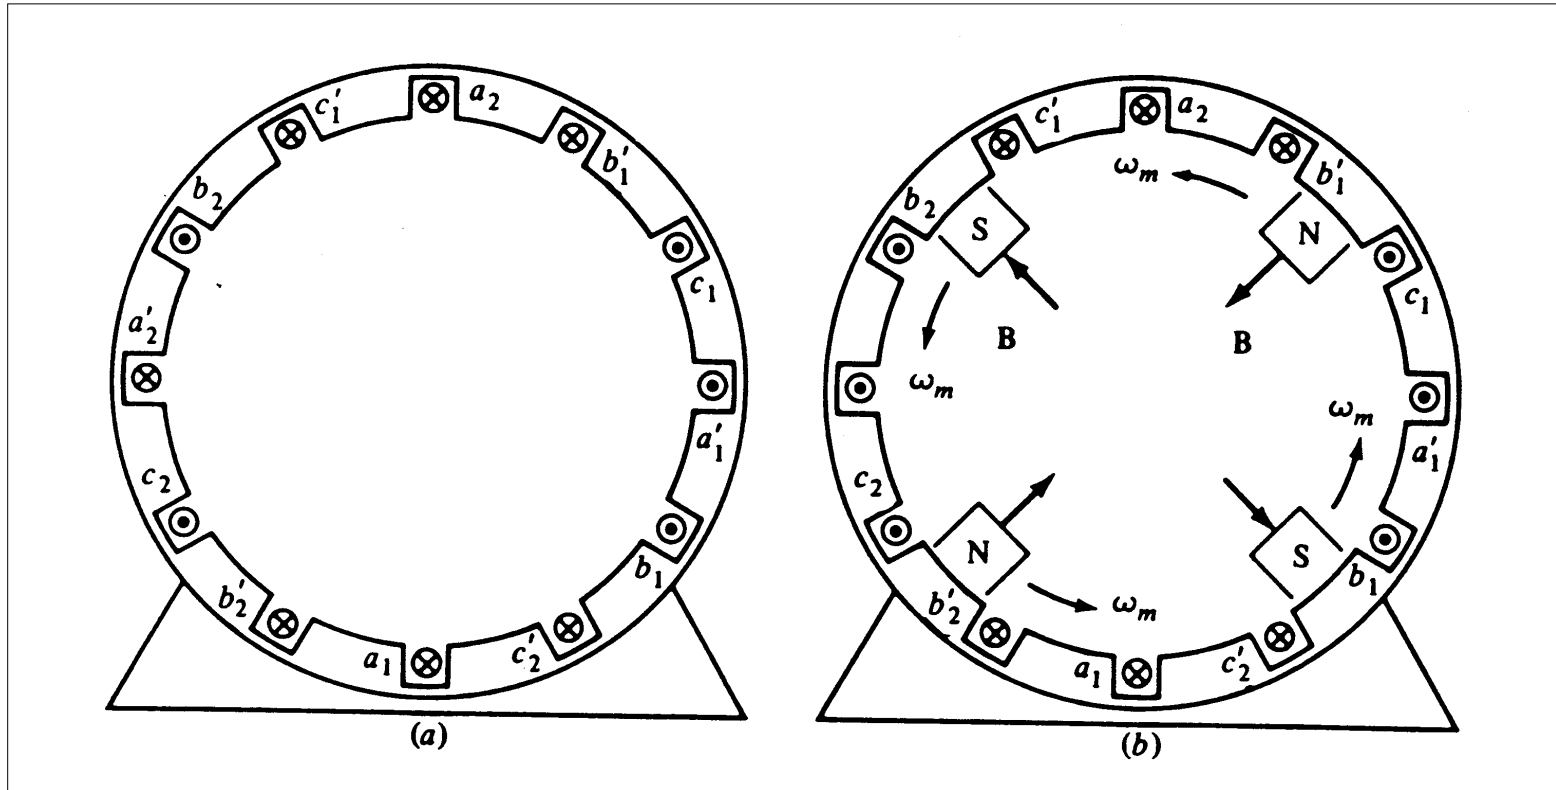

Figure 5.17: (a) A simple four-pole stator winding.
• *Now, if we assume that this pattern of the windings is repeated twice within the same stator space then the stator with windings will look like Fig. 5.17(a).*
- When a set of three-phase stator currents is applied to the stator windings, it will produce two north and two south poles as shown in Fig. 5.17(b).